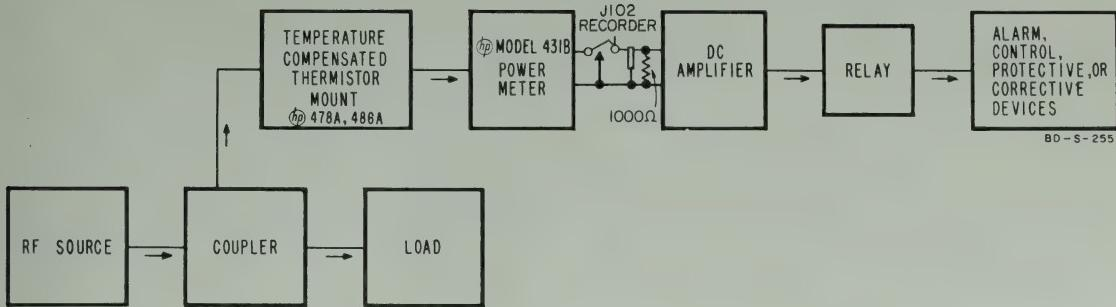

Figure 3-7. Monitoring Control Systems
**3-29. MONITOR CONTROL SYSTEMS.** By adding a dc amplifier and relay circuit to the rf monitoring arm of a system, the dc signal provided by the Model 431B can be used to actuate alarm or control circuits. Arrangement of equipment to provide an alarm or control system is shown in block diagram form in figure 3-7.